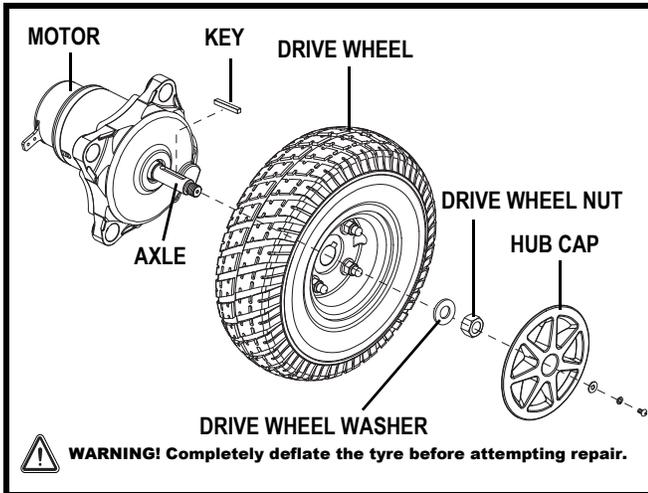

Figure 24. Jazzy Select 6 Drive Wheel Removal
5. Remove the hub cap, if equipped. See figure 24.
6. Remove the drive wheel nut and washer from the axle. See figure 24 or 25.
12. Reinstall the drive wheel nut and washer onto the axle and tighten. See figure 24 or 25.